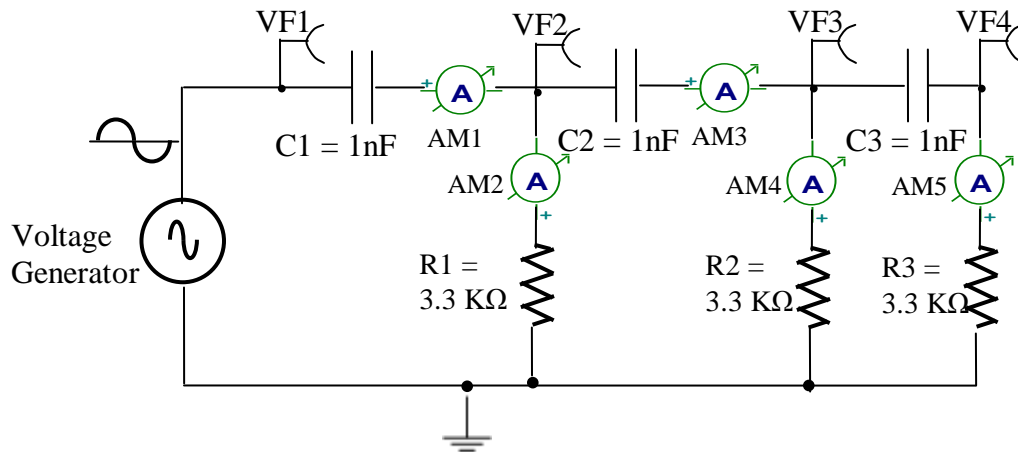

Fig. 4 Phase shifting network with three CR stages
11. Open the Tina Schematics Editor page. Click the Basic tab and pick and place resistors, capacitor, a voltage generator and a battery in convenient locations following the schematic of Fig. 4.
12. Following steps 2 and 3 and after checking the schematic, double-click the capacitors and resistors and set their values indicated in the schematic of Fig. 4. Next, double click the voltage generator and in the component dialog box, set the signal in the “Signal Editor” to “Sine wave”, amplitude to 2 volts and frequency to 12.5 k Hz.
Note: For megohms, use “M”, for milliohms use “m”, for microfarad use “u” and for nanofarad use “n”. Connect the components using the Wire symbol in the menu bar, according to the schematic in Fig. 4.
Output of first and second CR stages (Fig. 4)
Output of second and third CR stages (Fig. 4)
It should not be surprising that the value is different from 180 degrees, which we hoped to achieve by selecting identical CR network stages, and that each would contribute 60 degrees. While at first glance at Fig. 4, it may have seemed that the phase shifts contributed by each stage of the three stage RC network will be identical, the approach ignores loading effects of individual stages. What is observed, is that the loading effects combine in a manner such that the phase shifts reduce from their unloaded values as more and more stages are added.